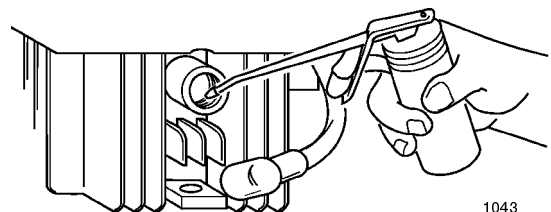

Figure 36
2. Using an oil can, add about one tablespoon of oil to the engine through the spark plug hole (Fig. 36).